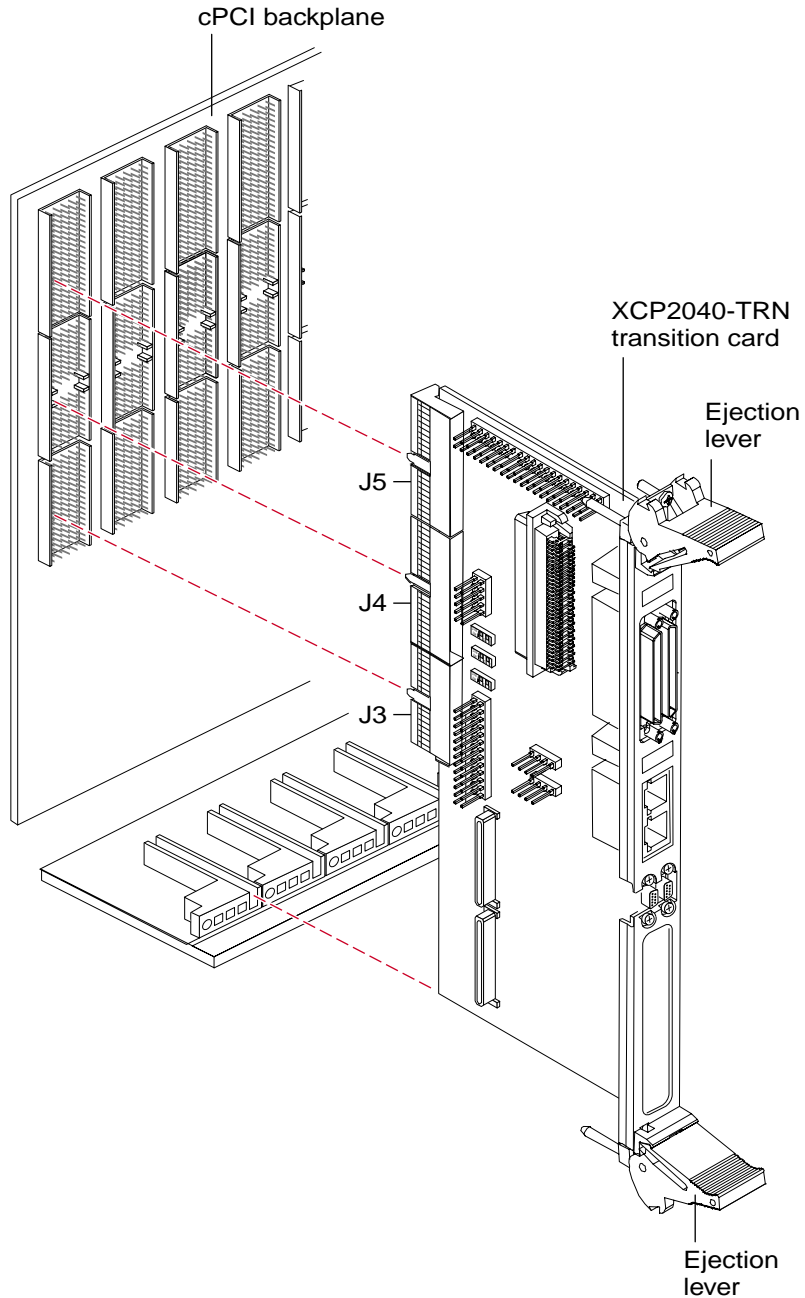

FIGURE 20 Transition Card Alignment During Installation in Backplane
- a. Position the card such that its J5 connector and the USB B connector on the front panel are on top, as shown in FIGURE 20.
- c. Engage the card edges with the chassis card guides and slide the transition card into the chassis, while pushing up on the upper ejection lever, and down on the lower ejection lever. See FIGURE 20.**